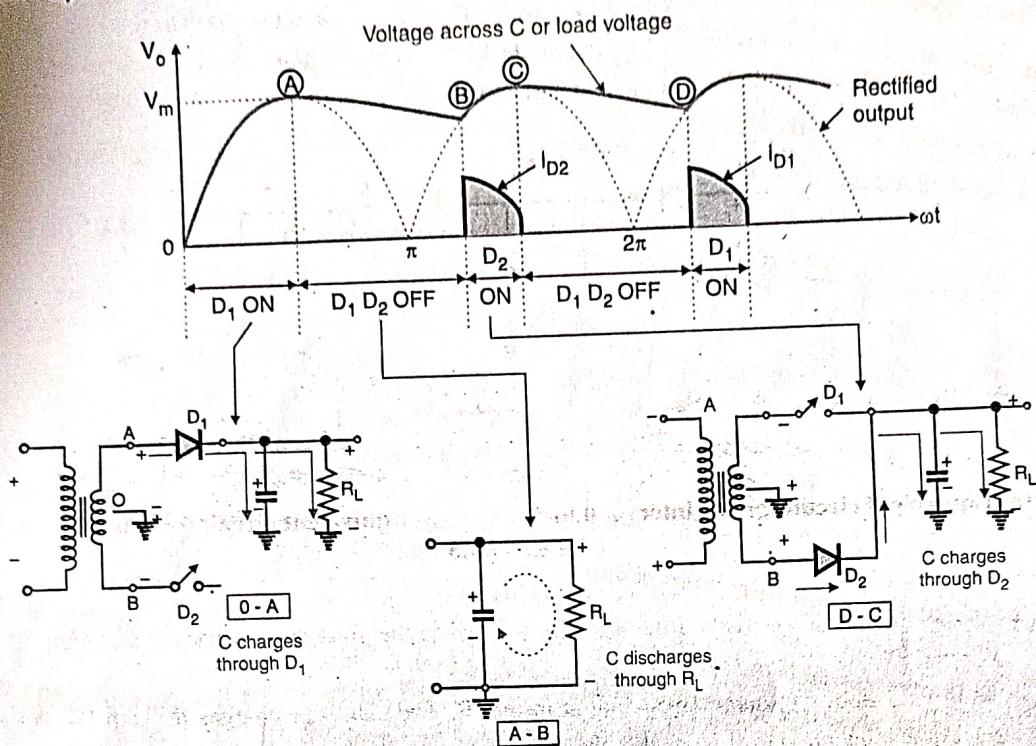

Fig. 11.8.2 : Load voltage waveform and equivalent circuits of FWR with a capacitor filter
- Fig. 11.8.2 shows the waveform of load voltage with the capacitor filter. Alongwith the waveforms the equivalent circuits for various intervals have been shown.
- After point "A" the instantaneous secondary voltage starts reducing as shown by the dotted waveform of rectifier output in Fig. 11.8.2. This will reverse bias the diode D_1 , hence at "A", the diode D_1 is turned off. The equivalent circuit for this interval is shown in Fig. 11.8.3(a).
- Due to this D₂ is reverse biased and stops conducting at point "C" as shown in Fig. 11.8.2. The equivalent circuit for this interval is shown in Fig. 11.8.4(a).
The load voltage waveform of Fig. 11.8.2 with filter capacitor is very close to the pure dc voltage waveform.